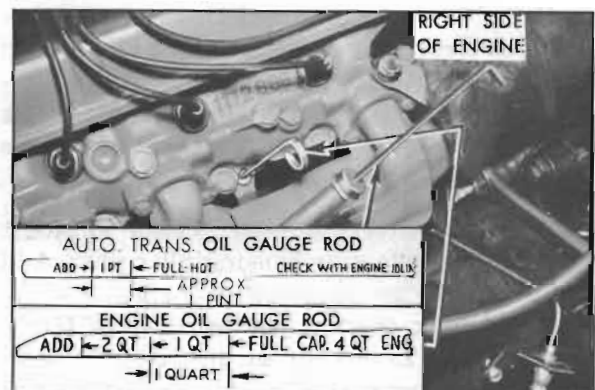

Figure 1-4—Engine and Auto. Trans. Oil Gauge Rods
6. *Automatic Transmission.* Check transmission oil level, *with transmission oil warm, transmission in Park, and engine idling.* Remove gauge rod located under right side of hood (fig. 1-4), wipe dry with clean cloth then reinstall to full depth. Remove rod and note oil level.